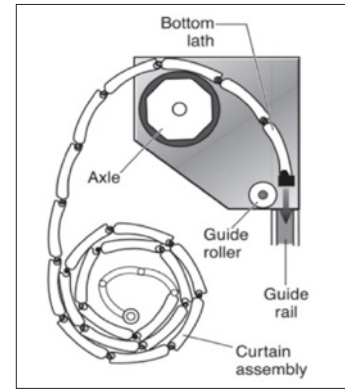

Fig 16
6.6 Feed the bottom lath over the top of the axle and down between the guide rails, as shown in **Fig 16** taking care not to scuff the curtain assembly, proceed until half of the curtain has been fed over the axle, carefully unroll the remaining curtain until this is balanced over the shaft, once this is done carefully feed the curtain into the guide until the curtain reaches the floor.